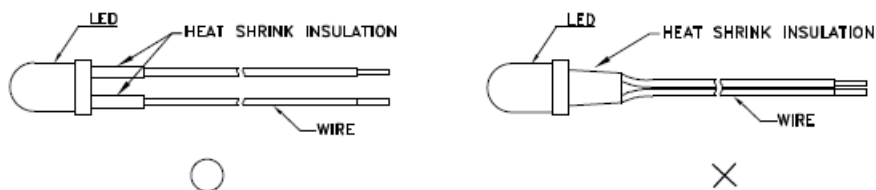

Figure 2
- When soldering wire to the LED, use individual heat-shrink tubing to insulate the exposed leads to prevent accidental contact short-circuit (Fig.2)